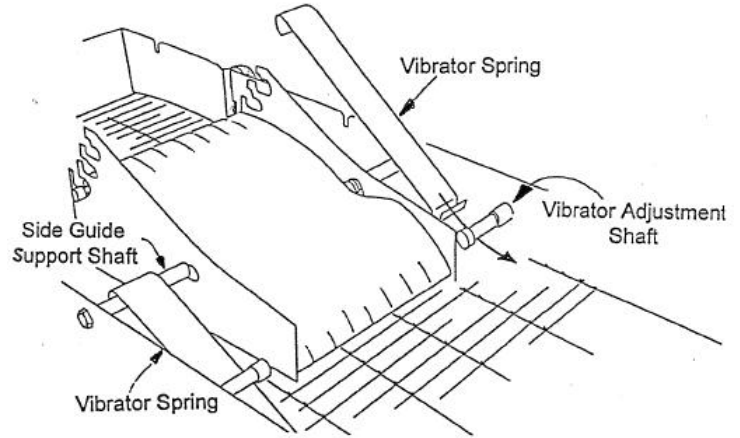

Figure 7
6.2.5 Belt Vibrator Springs Installation (See Figure 7)